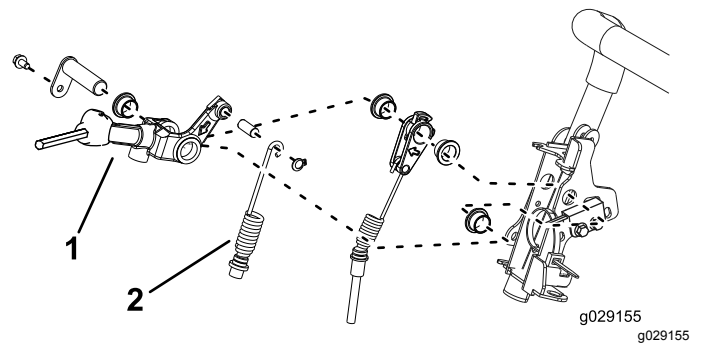

Figure 5
10. Remove the traction lever and traction cable from the old traction bracket (Figure 5). Keep all hardware.